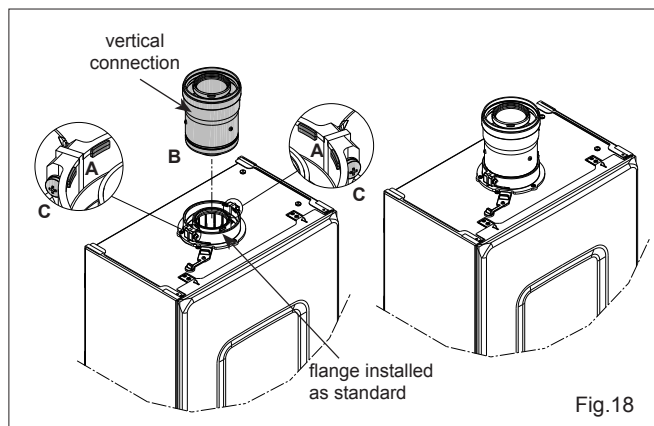

Fig. 18
NOTE: The appliance incorporates a 'click-fit' flue connection (see fig. 18). Ensure that both screws 'C' (fig. 11) on the 'click-fit' have been slacked off. Ensure that the connector is correctly aligned with the 'click-fit' and insert it into the 'click-fit' until it
clicks into position (this is when the tabs at points 'A' are located in the groove of the vertical flue connector - see fig. 18). Both screws (C) should now be tightened.